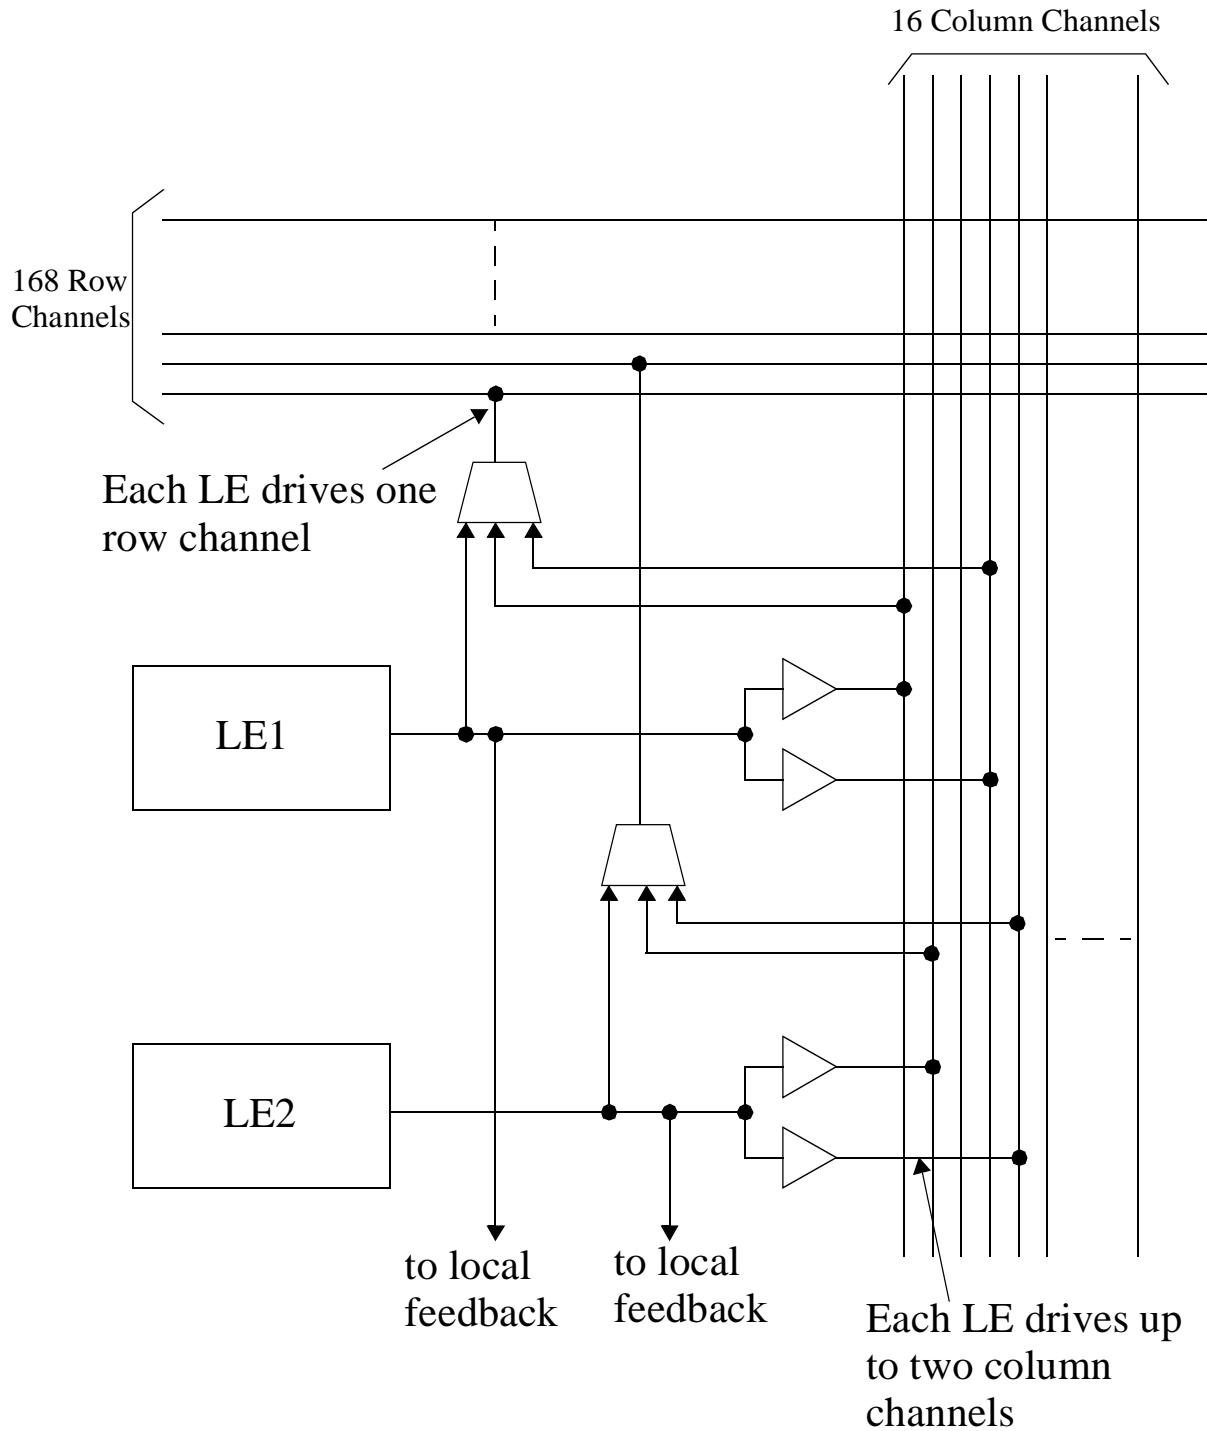

Figure 13 : LAB connections to row and column interconnect
- See Figure 13 for the details of the row to column interconnect.